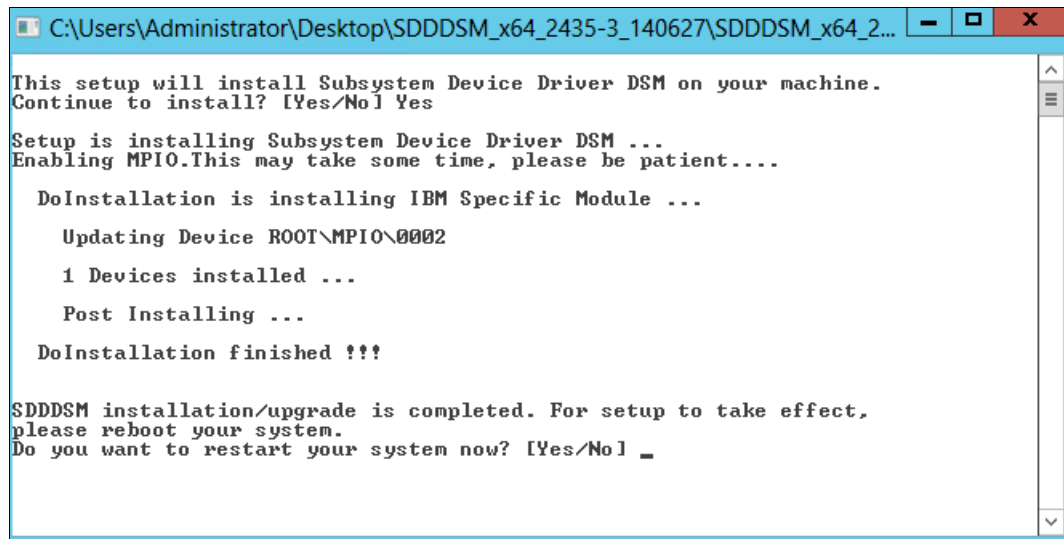

Figure 4-3 Completion of the SDDDSM installation on Windows 2012 R2
- After the setup completes, enter Yes to restart the system, as shown in Figure 4-3.